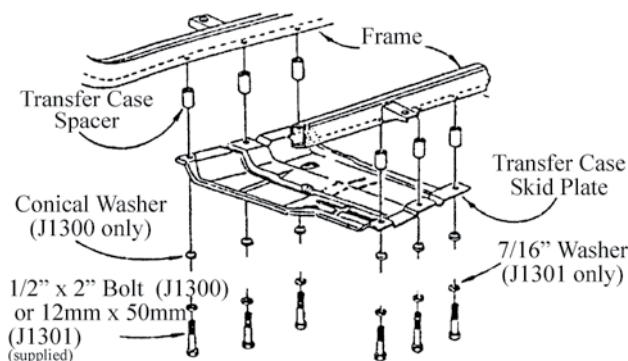

Figure 14
5. Attach the skid plate to the frame (through the new spacers) with the provided hardware: 97-02 models (kit #J1300) use 1/2" x 2" bolts with the provided conical washers. 03-05 models (kit #J1301) use 12mm x 50mm bolts with 7/16" USS washers **Figure 14**. Leave hardware loose.